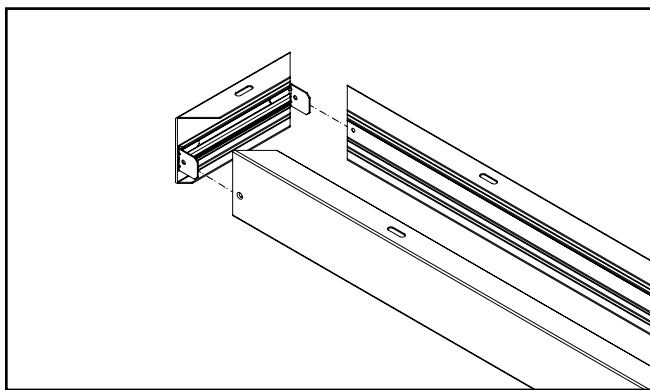

Figure 2.
- A2. Join a short rail with the long rails by inserting the protruding leg of each L-bracket into the corresponding slot on the long rail. Repeat on the opposite side to form a rectangle. (Figure 2.)